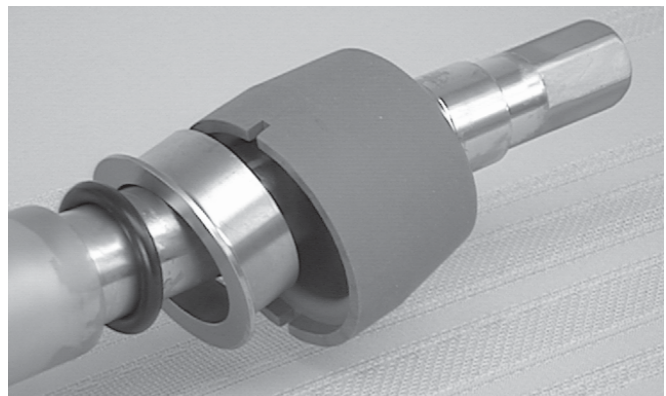

Figure 19. Rear Seal Removal
6. Remove the rear seal. Figure 19.